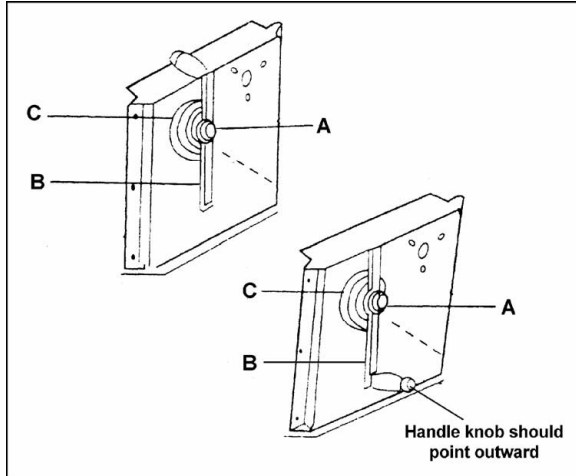

Figure 1
2. Locate the winch handle assembly that has been reversed for shipping purposes. Loosen the nut (A-Fig. 1) and pull handle (B-Fig. 1) from the base (C-Fig. 1). Reverse the handle and install into base as shown in the lower drawing. Tighten nut (A-Fig. 1).